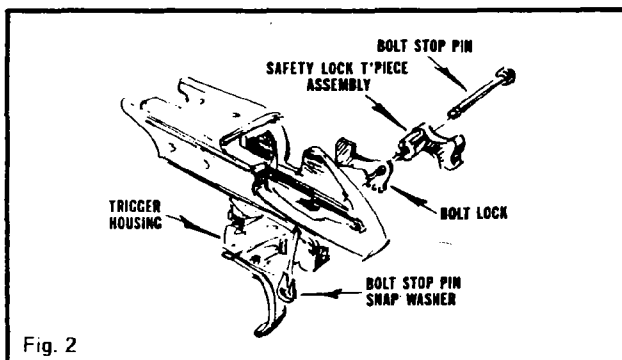

Fig. 2
To Disassemble — Remove bolt final assembly. Remove trigger guard assembly. Remove stock assembly. Slide off and disassemble bolt stop pin snap washer from left end of bolt stop pin. (See Fig. 2). Push left end of bolt stop pin across only enough to release bolt stop. Disassemble loosened bolt stop and bolt stop spring. Take care that small bolt stop spring is not lost.
To Disassemble — Remove bolt final assembly. Remove trigger guard assembly. Remove stock assembly. Remove bolt stop. Push bolt stop pin completely across and disassemble pin and safety lock thumbpiece assembly from rifle. **BOLT LOCK WILL ALSO** be loosened at this time and can be disassembled from right side of trigger housing. (See Fig. 2).
To Replace — Trigger assembly may be replaced as an assembly with no factory adjustment required. Trigger assembly includes bolt stop release, housing, safety, safety detent ball, safety detent spring, safety pivot pin, safety snap washer, sear and safety cam assembly, sear spring, trigger, trigger adjusting screw (2), trigger connector, trigger pin, trigger spring, trigger stop screw. (See Fig. 2).